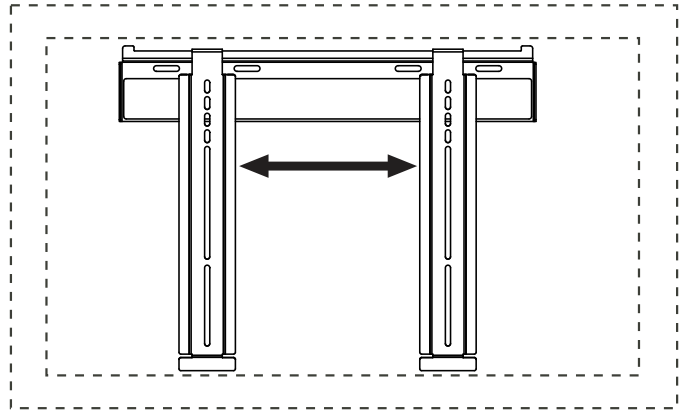
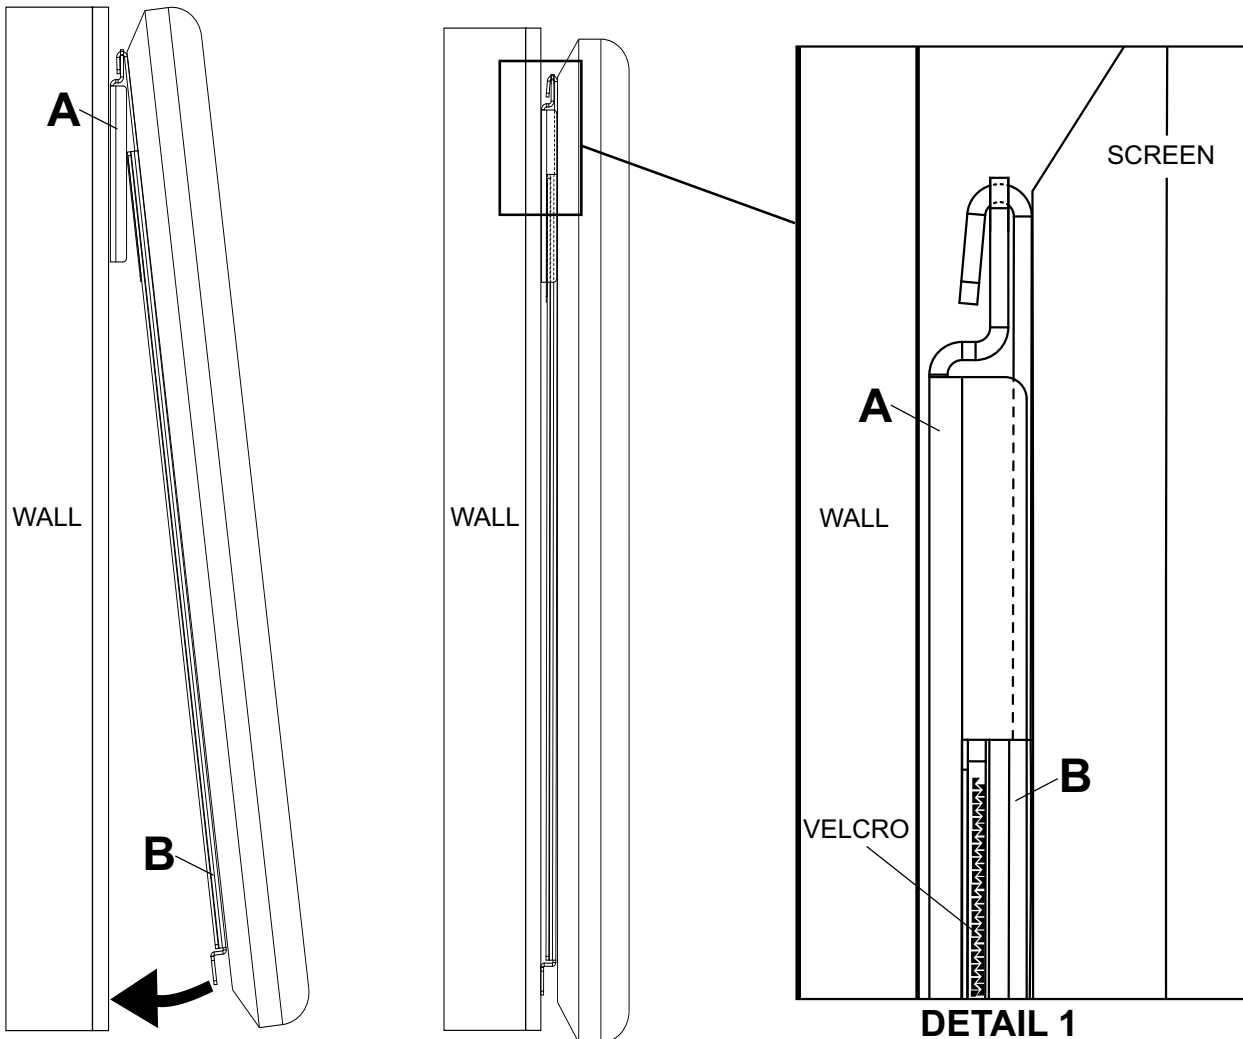

fig. 3.2
fig. 3.1
**3** Guide hooks of adapter brackets (**B**) onto flange of wall plate (**A**). Then slowly swing screen toward wall as shown in fig. 3.1. Gently press on screen to ensure velcro strips are engaged as shown in detail 1. To horizontally adjust screen, swing screen away from mount to disengage velcro, and slide screen along wall plate to desired position as shown in fig 3.2. Then slowly swing screen toward wall to re-engage velcro. To remove screen from mount, swing screen away from mount, and lift screen off of mount.